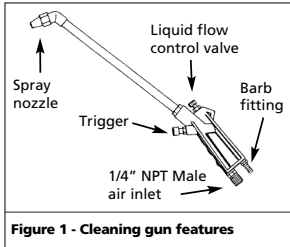

Figure 1 - Cleaning gun features
2. Corrosion.	2. Disconnect hose from tool and add two drops of mineral spirits through the barb fitting on the tool after each use (see Figure 1).